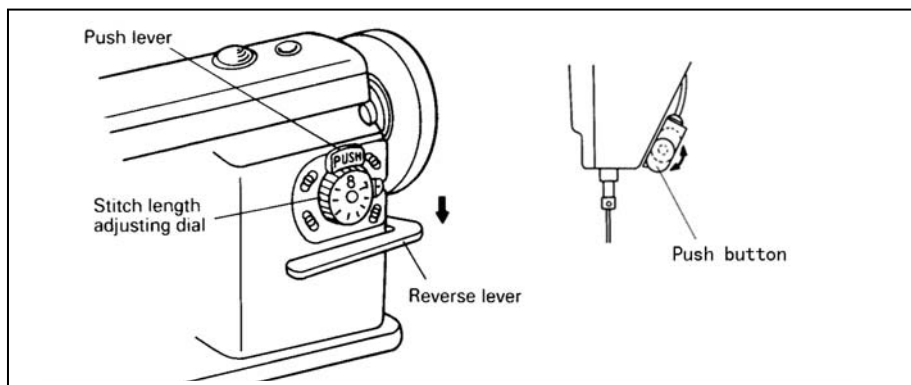

Fig.16
- 8) When manipulating the switch in the control box, first turn off the power switch, then open the front cover (Fig.16). If you have to open the bottom cover, wait for 10 minutes after the power switch has been turned off, since a high voltage is applied inside the box. (This is vital to discharge the built-in capacitors).
19、 Adjustment of stitch length and reverse sewing (Fig.16):